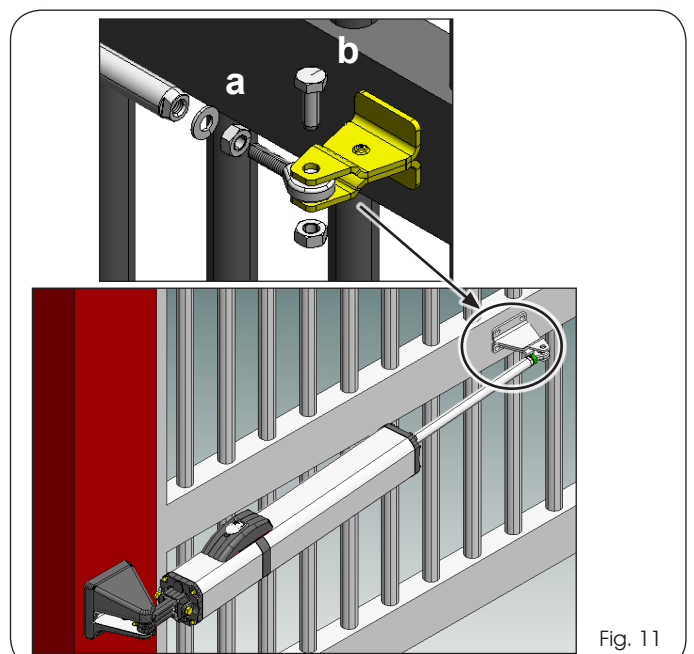

Fig. 11
6. Screw the swivel joint halfway into the piston rod (Fig. 11 Ref. a).
10. Close the gate leaf and install the front bracket on the rod as shown in Fig. 11 Ref. b.